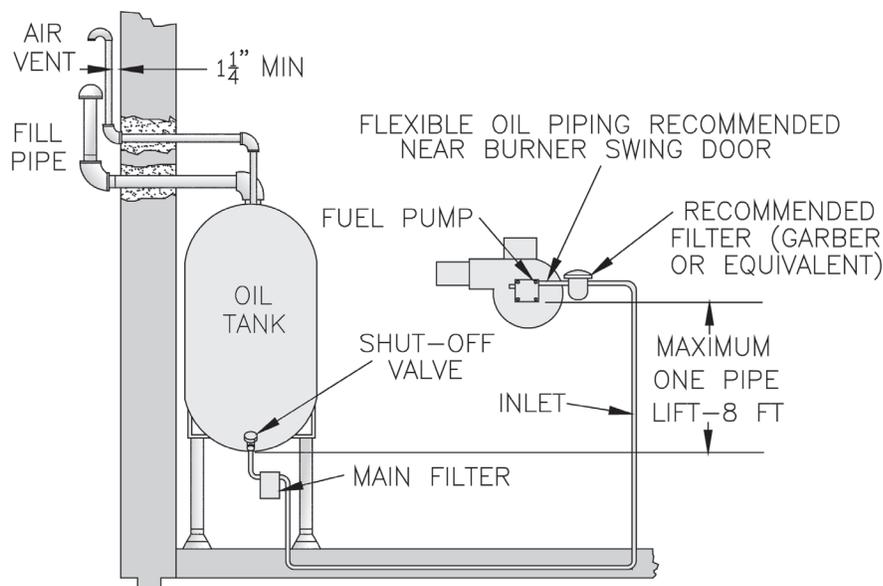

Figure 8-1: Single Pipe Oil Line
2. The single-stage fuel unit may be installed single-pipe with gravity feed or lift. Maximum allowable lift is 8 feet. See Figure 8-1.